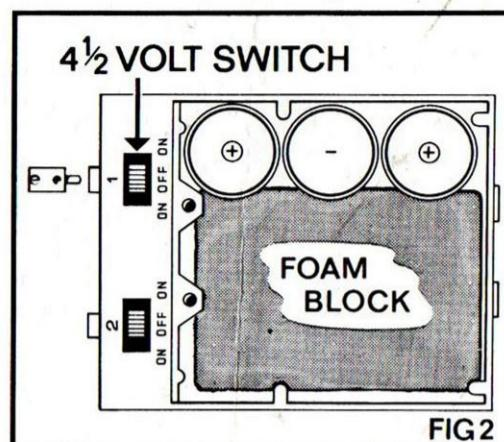

FIG 2
- If the power required is 4½ volts then only 3 batteries need be used and they should be placed in position shown in Fig. 2: the remaining space in the box being filled by the foam block supplied.